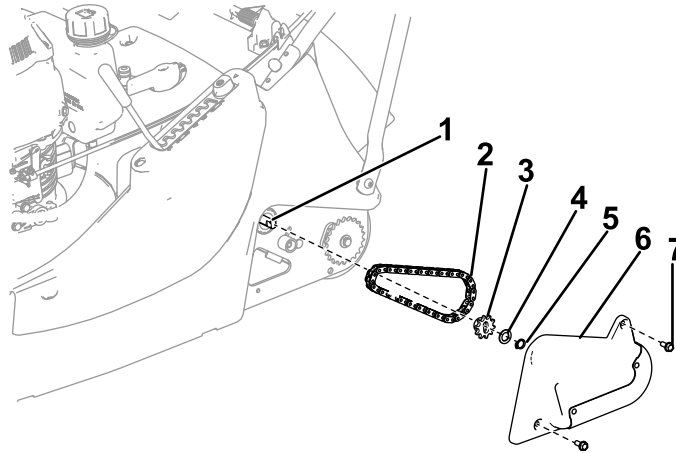

Figure 1
2. Remove the chain cover from the machine by removing the 2 chain-cover bolts (Figure 1).
3. Remove and retain the existing circlip, thrust washer, sprocket, and chain from the gearbox post (Figure 1).